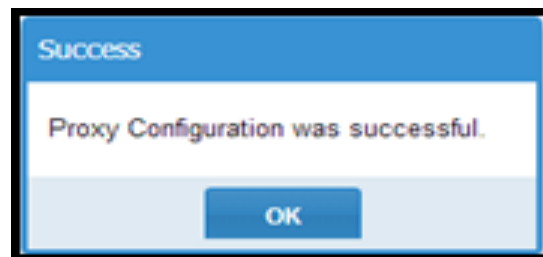

Figure 63 Clicking OK
- In the confirmation message window, click **OK**, as shown in Figure 63 on page 51. The window closes.